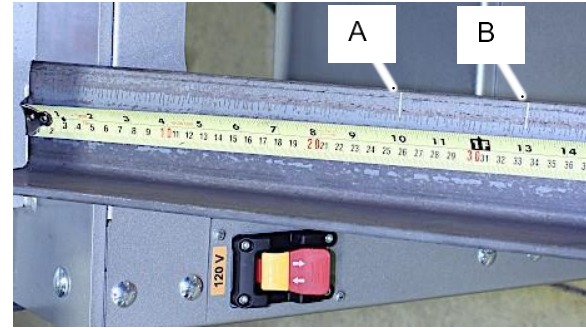

Figure 14
Referring to Figures 14– 15:
4. Mark the material for the length needed. Example: 10" length wanted (Fig. 14, A). Marked at 13" for alignment (Fig. 14, B)